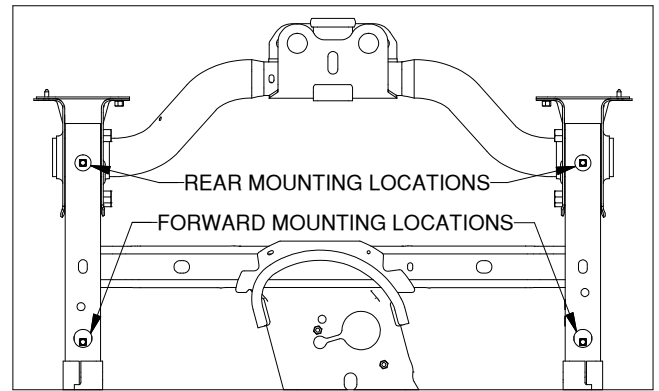

Figure B1: View under truck bed looking up.
- 1. Locate the two hardware mounting locations.** On each side of the frame towards the rear of the truck there are two mounting hole locations, see Figure B1. Each hole will need a locking strap and carriage bolt.